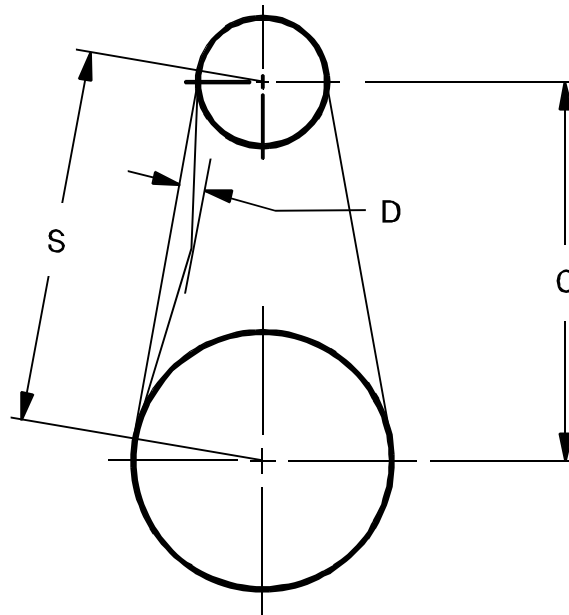

Figure27: Belt Tensioning
Refer to **Figure 27**, page 70.
2. Check the tension of belts by measuring the deflection force using a tensiometer or equivalent spring scale. Apply a perpendicular force to any one of the belts or belt at the mid point of the span length, **Figure 27**, page 70.
7. Stop the drive and tension the belts to the maximum deflection force recommended, *see Table 13 and Table 15*. Measure the deflection value using a tensiometer or equivalent spring scale. Apply a perpendicular force to any one belt at the mid point of the span, *Figure 27, page 70*.